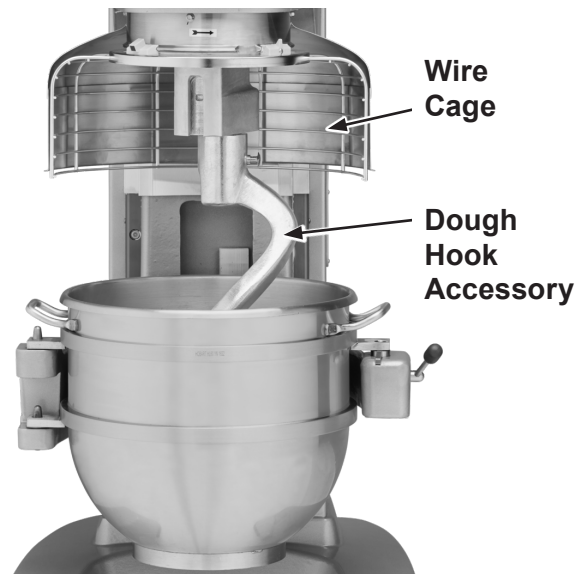

Fig. 13
5. Place the agitator inside the bowl, then attach it to the agitator shaft (Fig. 13).